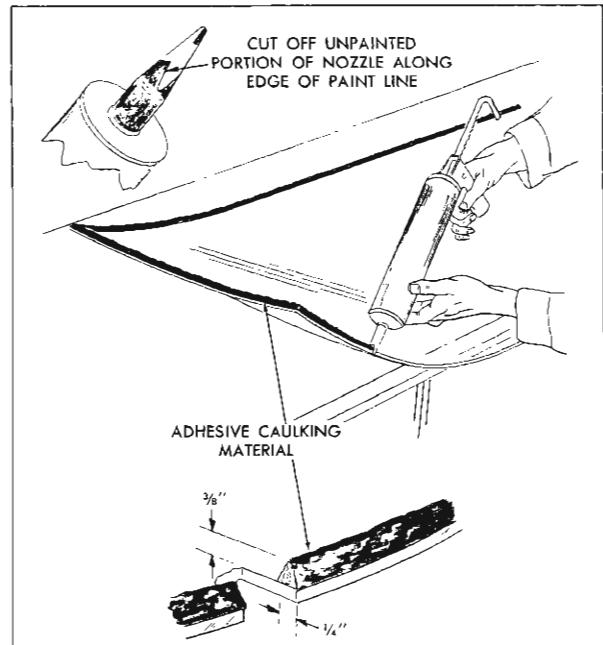

Fig. 11-22 Adhesive Application
6. Cut off unpainted portion of cartridge nozzle along edge of paint line (Fig. 11-22).
8. Carefully apply a smooth continuous bead of caulking material on inside surface of glass next to edge completely around glass (Fig. 11-22). Caulking material should be approximately $\frac{1}{4}$ " wide at the base, and form a pyramid $\frac{3}{8}$ " high. If, during application, an air bubble is encountered in material, back up the applicator and apply sufficient material to fill the void and to disperse the bubble before continuing.